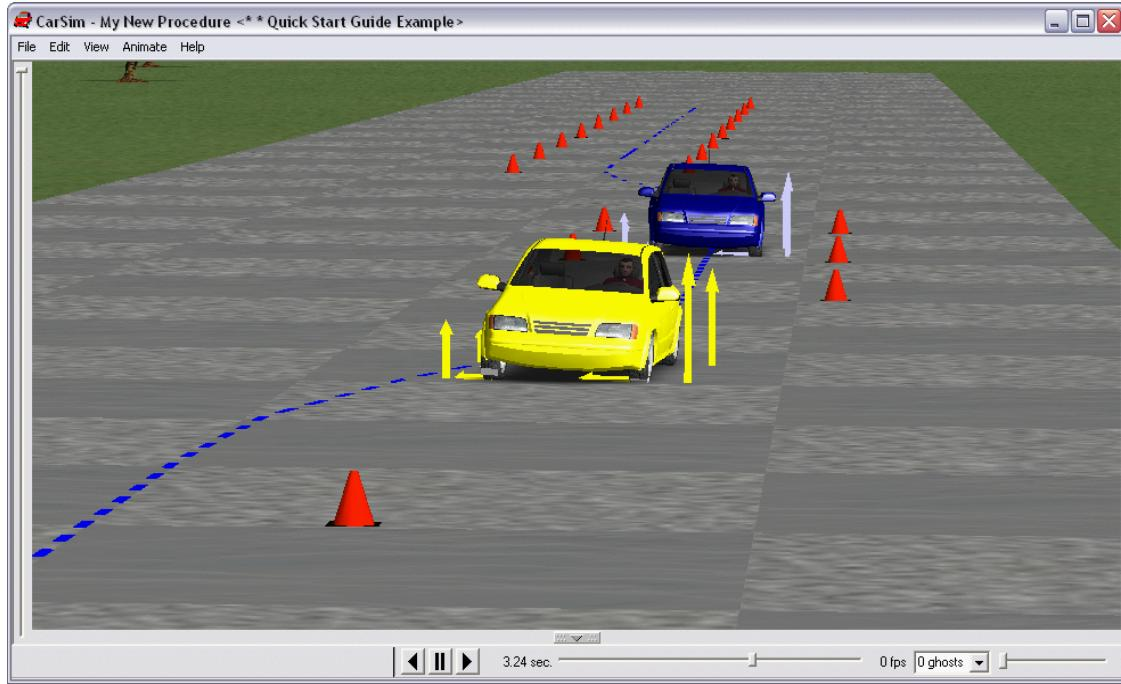

Figure 25. Animation with overlay of two runs.
14. Click the **Animate** button to view both runs in the animator (Figure 25). After viewing the results, close the animator.